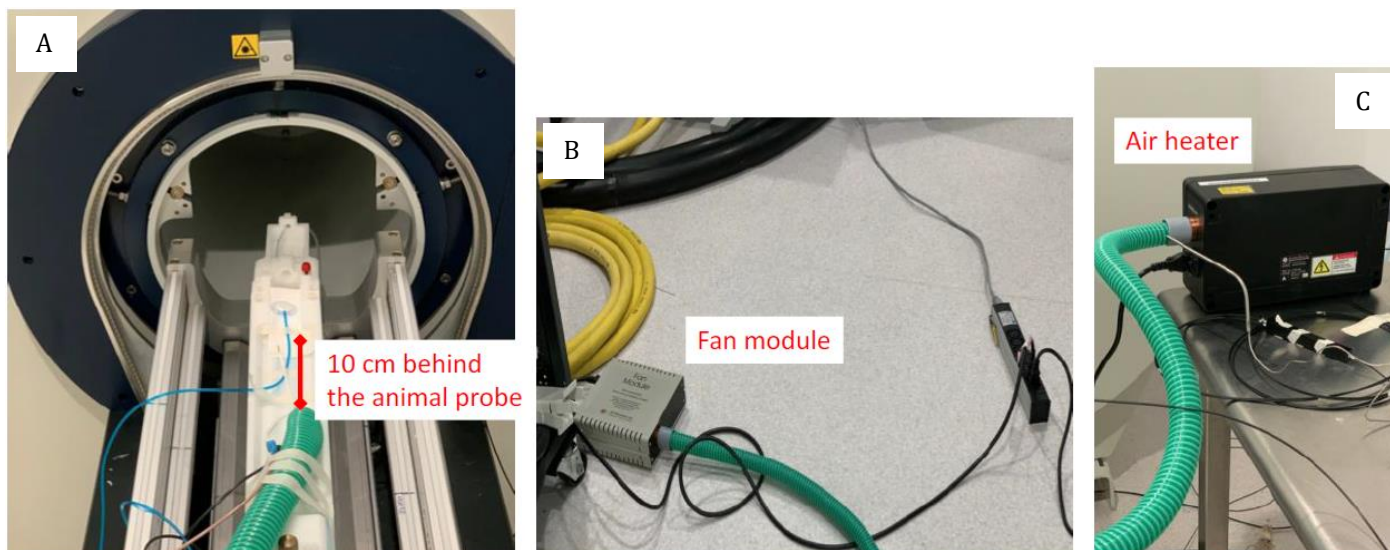

Fig. 1
1. the heating system (heater, fan module and green tubing) (Fig.1)
- a. Tape the temperature probe at where the mouse would be on the animal holder and secure the heating tube about 10 cm behind the rectal probe. (Fig.1, A)